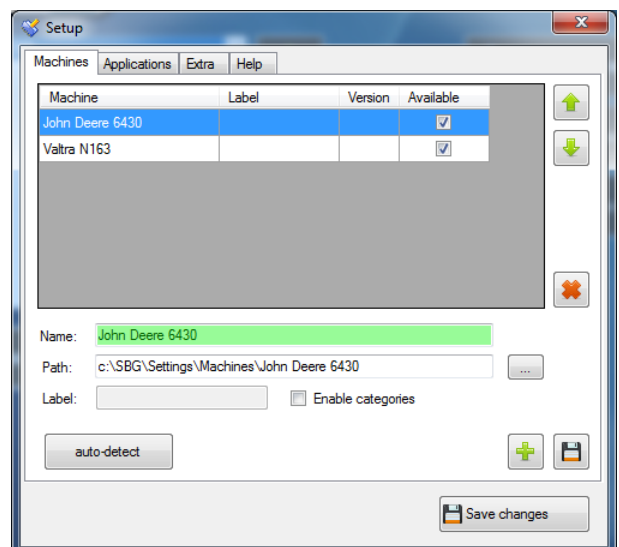

Figure 3 Loader configuration
1. Hold CTRL when pressing the SBGUIDANCE button to open the configuration window (Figure 3).